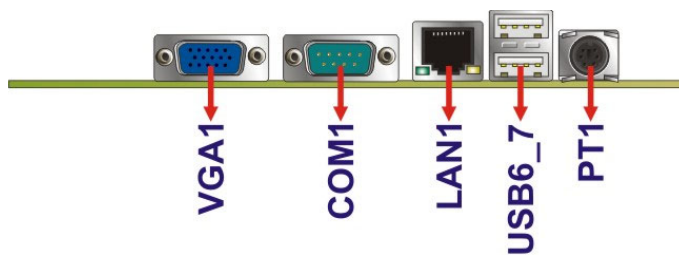

Figure 3-25: NANO-PV-D4252/N4552/D5252 External Peripheral Interface Connector
Figure 3-25 shows the NANO-PV-D4252/N4552/D5252 external peripheral interface connector (EPIC) panel. The NANO-PV-D4252/N4552/D5252 EPIC panel consists of the following:
- CN Location:** See Figure 3-25
- CN Location:** See **Figure 3-25**
CN Location: See **Figure 3-25**